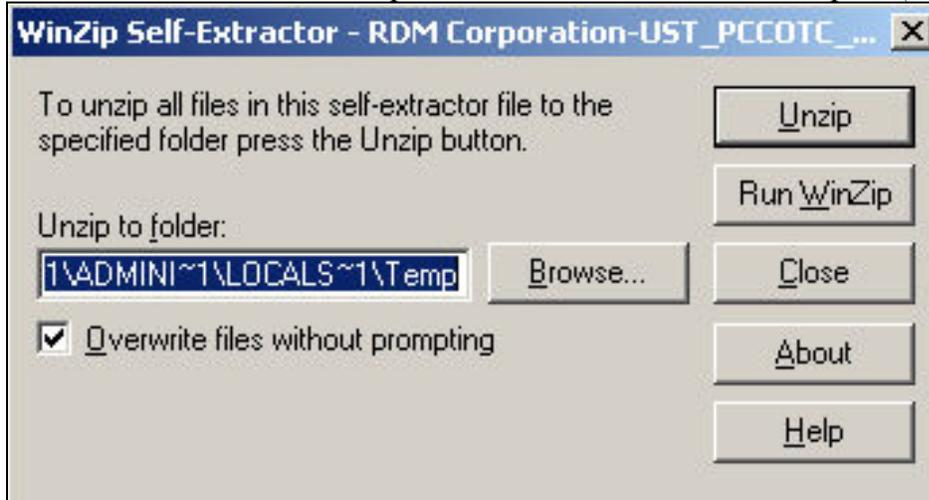

Figure 6.10.6
4. Click 'Close'. The WinZip Self-Extractor archive window opens (Figure 6.10.6)